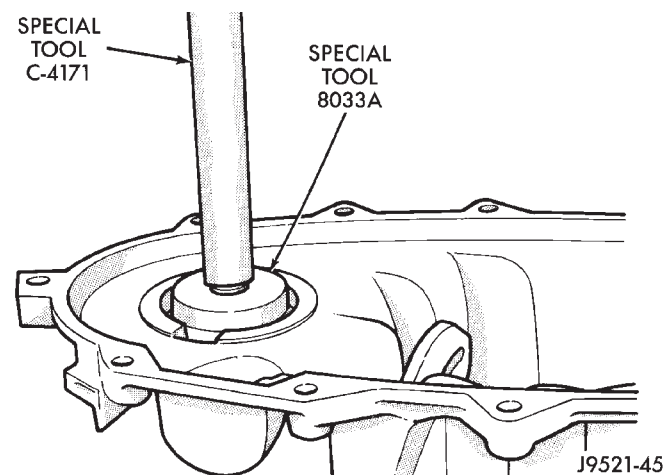

Fig. 46 Front Output Shaft Front Bearing Installation
(2) Install new front output shaft bearing with Tool Handle C-4171 and Installer 8033A with the tapered cone upward (Fig. 46).